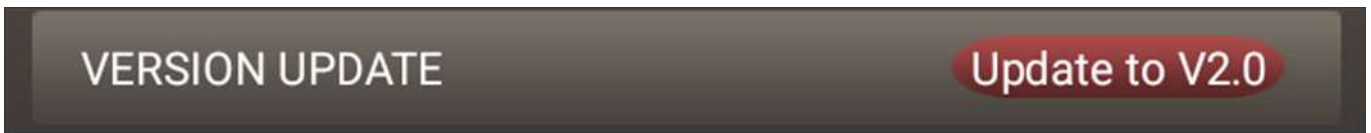

Fig. 12-11A
- As shown in **Fig. 12-11A**, a new system version is available, and you can choose to update the system.